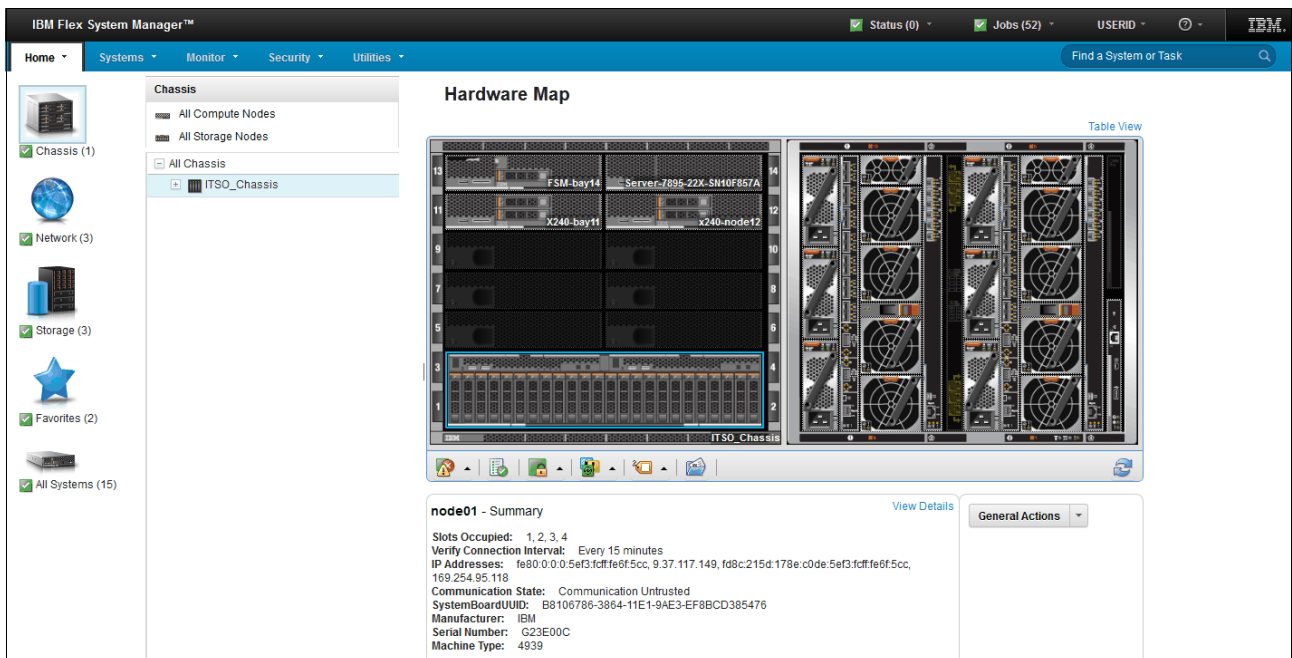

Figure 4-3 IBM Flex System Manager - Hardware Map
2. In the Chassis Manager, select the applicable chassis which will launch the Chassis Map for that chassis, as shown in Figure 4-3.